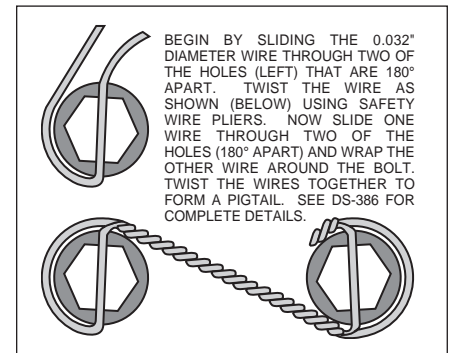

Figure 4. Safety Wire Diagram
- Slide the rotor registration adapter (16) onto the axle register on the axle flange with the smaller O.D. facing toward the hat (7)
- With the larger I.D. side of the rotor (6) facing away from the hat (7), attach the rotor (6) to the hat (7) using washers (8) and bolts (9) as shown in Figure 1. Using an alternating sequence, apply red *Loctite*® 271 to the threads and torque bolts to 25 ft-lb. For an added measure of security, the bolts may be safety wired using standard 0.032 inch diameter stainless steel safety wire as shown in Figure 4.
- Lubricate caliper mounting studs (13) and nuts (11) with lightweight oil. Install two shims (14) over each stud (13) on the radial mount bracket. Slide the caliper (10) in place over the studs and rotors and install the washer (12) and lock nut (11) to hold the caliper in place. Snug the lock nuts (11) and check that the rotor (6) is centered in the caliper (10). Add or subtract shims (4 and/or 5) as necessary between the mount bracket and the spindle to center the caliper.
- Remove the caliper center bridge pad retainer bolt, nut, and tube from the caliper. Slide the brake pads (15) into place. They should install easily without interference. Check that the outside radius of the brake pad is flush with the outside diameter of the rotor face. Add or subtract shims (14) between the caliper and mount bracket to gain the proper alignment. Reinstall the center bridge pad retainer tube, bolt, and lock nut. The locknut should be snug without play in the bolt or tube. Be cautious not to over tighten.
- Once all clearances have been checked, remove the wheel, caliper, hat, and rotor from the spindle and hub. Secure the caliper mounting bracket (1) to the spindle using red *Loctite*® 271. Torque the bolts to 65 ft-lbs. Reinstall the hat and rotor assembly and again use several lug nuts to hold it in place. Reinstall the caliper, torque the caliper nuts (11) to 30-35 ft-lbs.